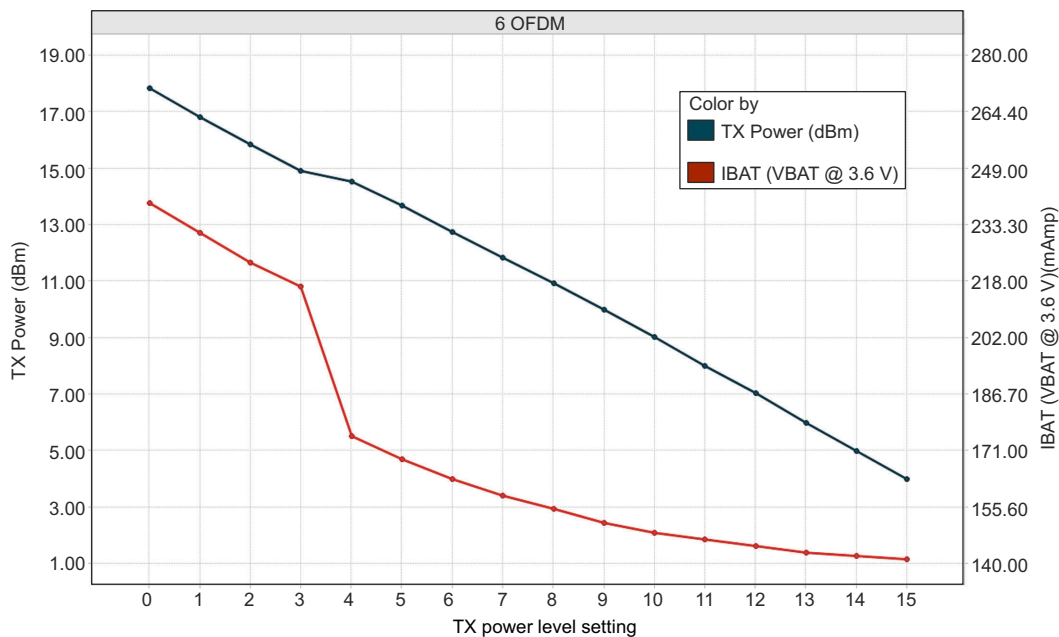
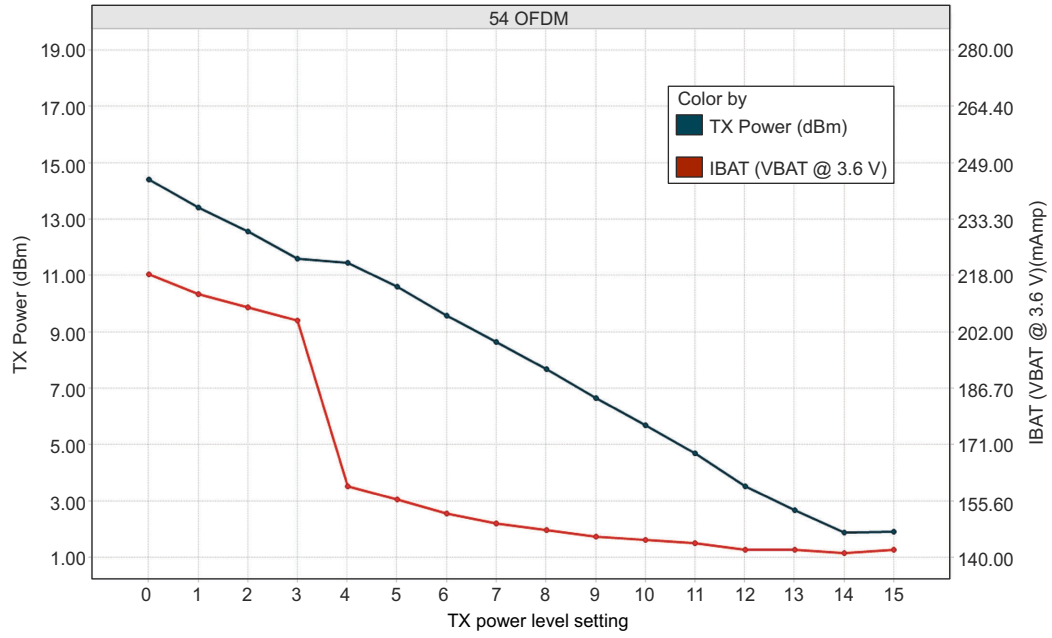

图 7-2. TX Power and IBAT vs TX Power Level Settings (6 OFDM)
图 7-3. TX Power and IBAT vs TX Power Level Settings (54 OFDM)
- TX power level = 0 implies maximum power (see 图 7-1, 图 7-2, and 图 7-3). TX power level = 4 implies output power backed off approximately 4 dB.